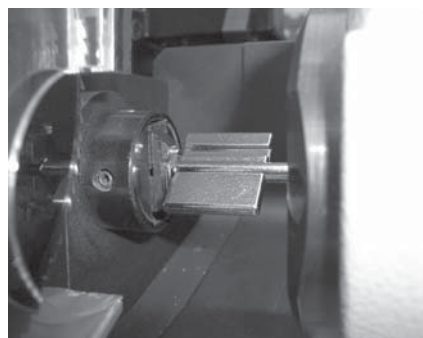

Fig. 56
- 6) Hold the key head with the left hand and push towards the tailstock, making sure that the bits butt up against the grips on the tailstock (K1); simultaneously transfer the 'T' wrench (T4) onto the tailstock screw (V2) and secure the key tip (fig. 56).